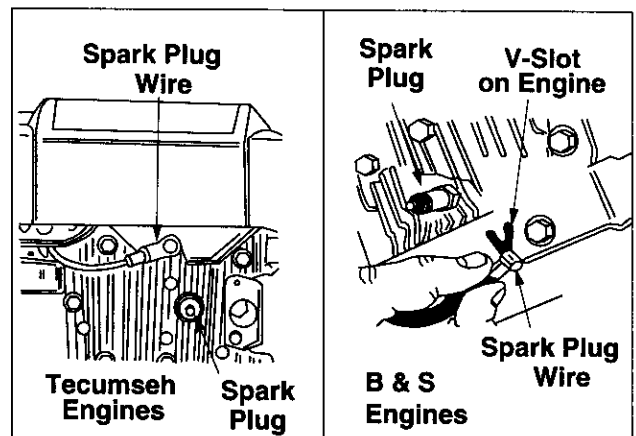

Figure 3
1. Disconnect the spark plug wire from the spark plug and ground it against the engine. See Figure 3.